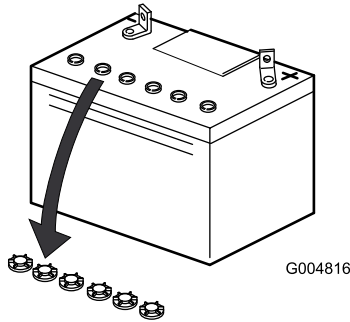

Figure 3
3. Remove the vent caps from the battery (Figure 3).